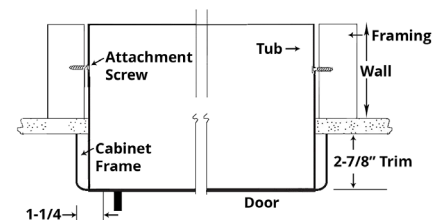

Figure 7
2. Frame in above, below and at both sides of the cabinet opening (figure 7). Note: On load bearing walls, the studs must be doubled on either side of the cabinet tub. If a stud must be cut to install the cabinet, a load bearing header must be installed above the cabinet tub.